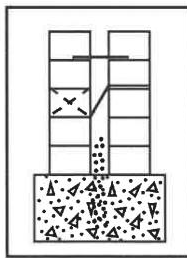

FIGURE 5.7
- 5.7 FIGURE 5.7 below shows the bottom part of a cavity wall. (1)